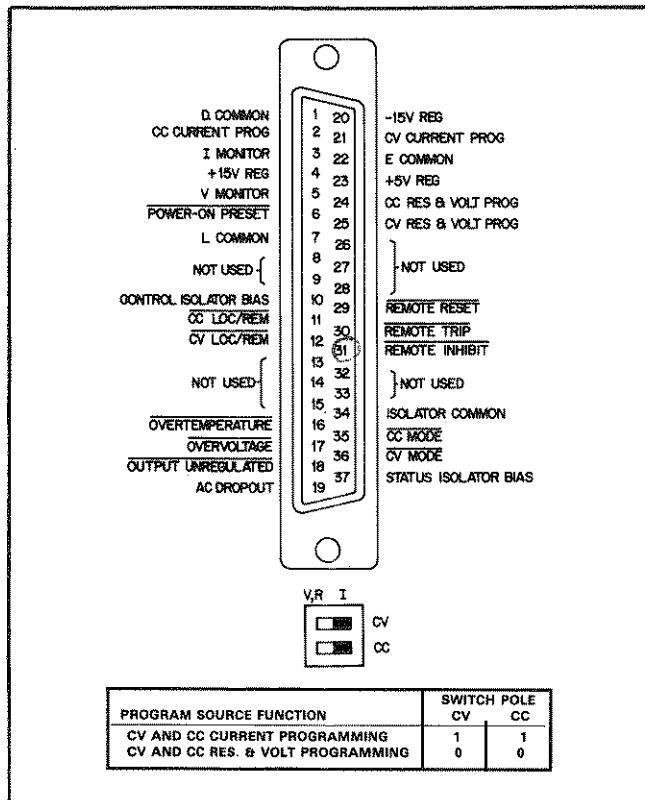

Figure A-2. 002 Option Rear Panel Connector J3 and Switches A1 and A2.
Next switch A1 and A2 also on the rear panel, to the correct program source function, see Figure A-2. All connections are made at the 37-pin rear panel connector J3, and can be wired directly into the mating connector supplied for this purpose.
A-24 Check switches A1 and A2 on the rear panel, they must be in their correct positions for CV and CC resistance/voltage programming (see figure A-2). A resistance variable from 0 to 4 K ohms can be used to program the output voltage or current from 0 to full scale. To program the output voltage, connect the variable resistance between J3-25 (CV
**A-25 Remote Voltage Programming (Figure A-6).** Check switches A1 and A2 on the rear panel, they must be in the correct positions for CV and CC resistance/ voltage programming (see figure A-2). A voltage source variable from 0 to 5 volts, can be used to program the output voltage or current from 0 to full scale. The load on the programming source is less than 1 mA. To program voltage, the voltage source should be connected from J3-25 (CV RES & VOLT PROG) to J3-22 (E COM). To program current, the voltage source should be connected from J3-24 (CC RES & VOLT PROG) to J3-22 (E. COMMON). If the programming lines become open circuited (user's system becomes disconnected from J3) during voltage programming, the Programming Protection circuit will reduce the power supply output to zero.
**A-26 Current Programming (Figure A-7).** Check switches A1 and A2 on the rear panel, they must be in the correct positions for CV and CC current programming (see Figure A-2). A current sink variable from 0 to 2mA, can be used to program the output voltage or current from 0 to full scale (see Figure A-7). The following paragraph provides a brief circuit description, refer to schematic diagram.